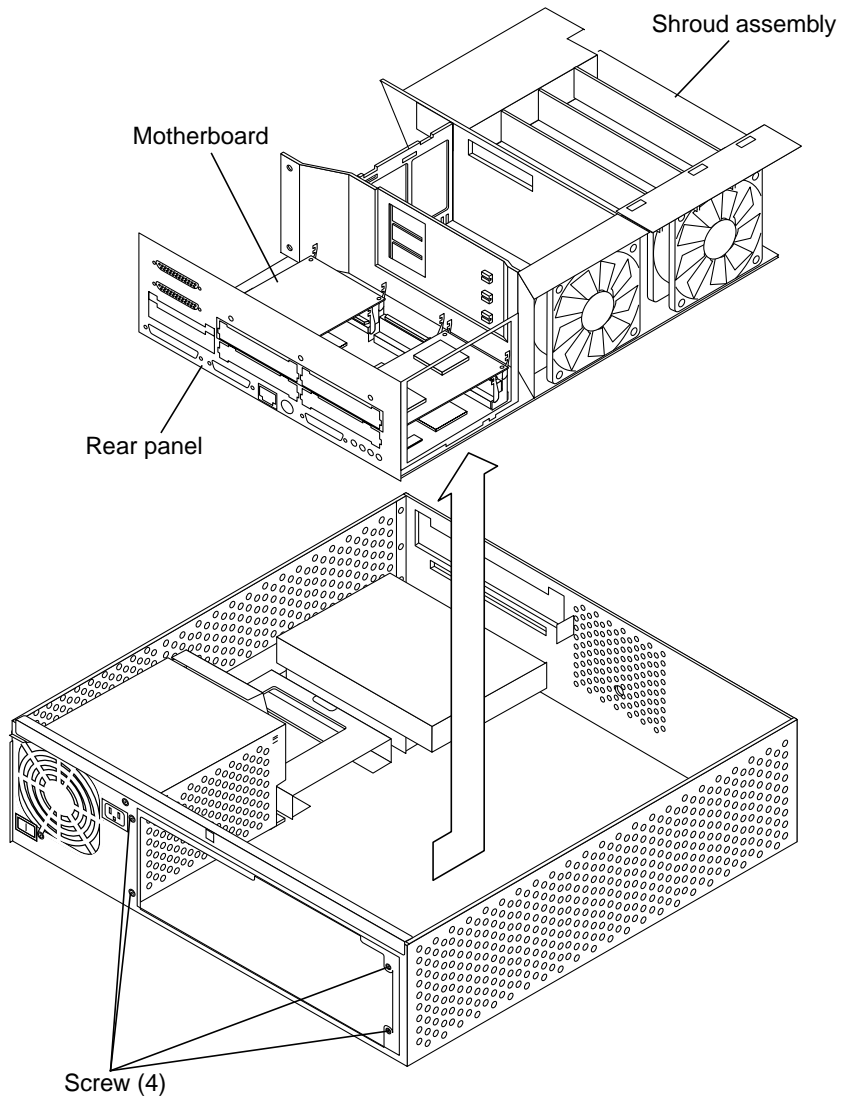

FIGURE 10-16 Removing a Motherboard
8. Grasp the motherboard and lift it from the chassis (FIGURE 10-16).